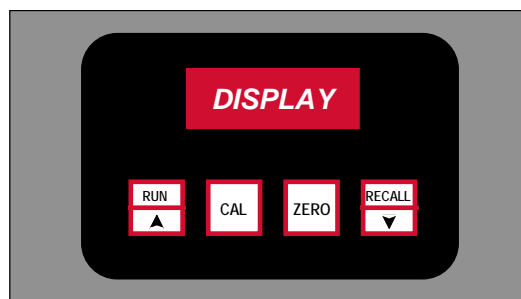

Figure 3: The Display and Control Panel
The front panel consists of a 4 digit LED display and four labeled, touch-sensitive push button controls as illustrated in Figure 3. The LED display remains illuminated while the analyzer is plugged in (switched on). When the instrument is on and not in use, the display may either show the result of the last analysis, or it may show *idLE*.
The CAL lockout switch must be in the on (I) position to set the timer (see figure 3, section 1.3.2). Press and hold the **RUN** button until the current timer value is displayed. The value is displayed as 1 or 2 digits in minutes and 2 digits in seconds, separated by a period (.). Release the **RUN** button once the current value (initially 0.00) is displayed. Use the up- arrow and down-arrow keys to scroll the timer back to 0.00. Once the desired time has been programmed press the **CAL** button. The display will read *idLE*.